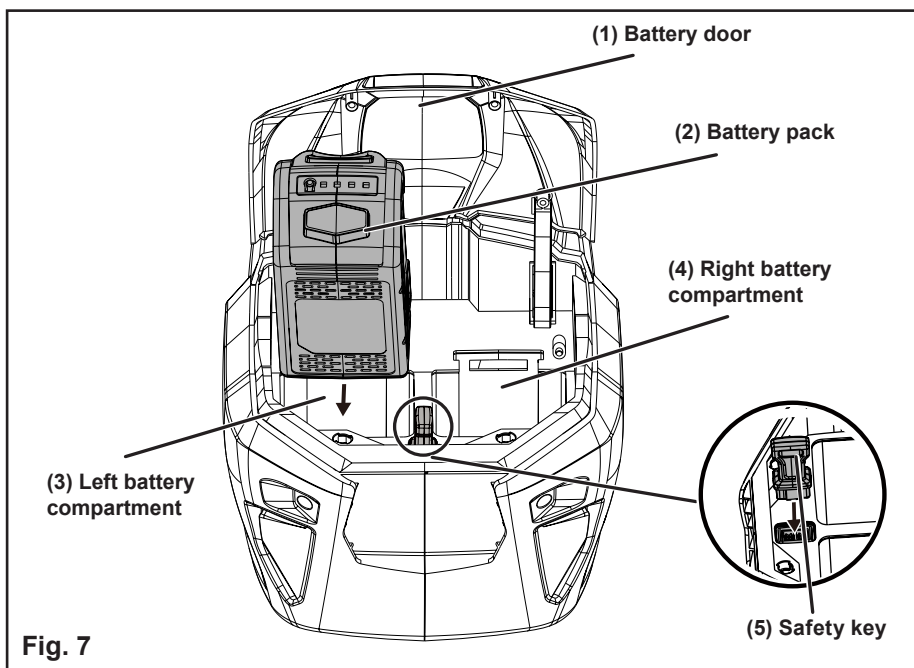

Fig. 7
TO INSTALL THE BATTERY PACK (See Figure 7)
TO REMOVE THE BATTERY PACK (See Figure 7)
- Open the battery door and insert the battery and safety key. (See Fig. 7)
CUTTING HEIGHT ADJUSTMENT (See Figure 7)